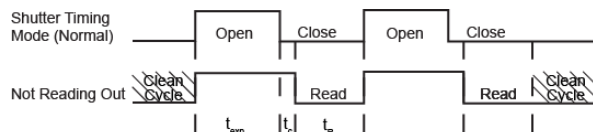

Figure 108. Clean Cycles Timing diagram
**Cleaning Cycles** is the basic cleaning function and is regulated through the parameters **Clean Cycle Height** and **Number of Clean Cycles**. These cycles start when the camera (or controller) is turned on and a clean pattern is programmed into the controller, and they continue until **Acquire** is selected. The timing diagram in Figure 108 is for an experiment set up to acquire three (3) spectra in **No Response** timing mode with normal shutter operation selected. In this diagram, clean cycles occur before the first exposure and after the last readout period.